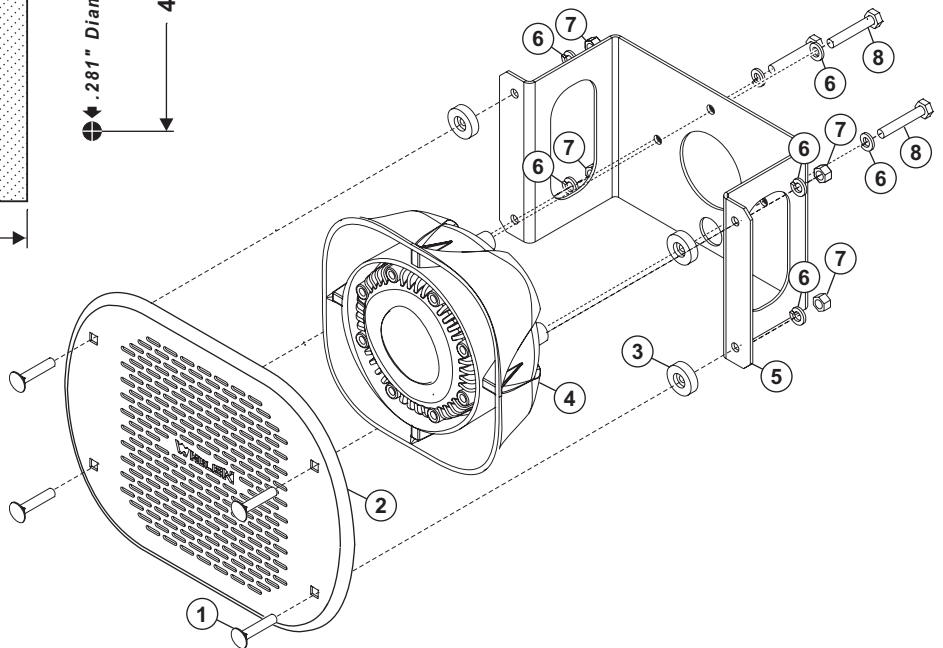

Fig. 3
4. Mount the siren speaker with bracket to the vehicle using the supplied hardware in the order shown (Fig. 3).